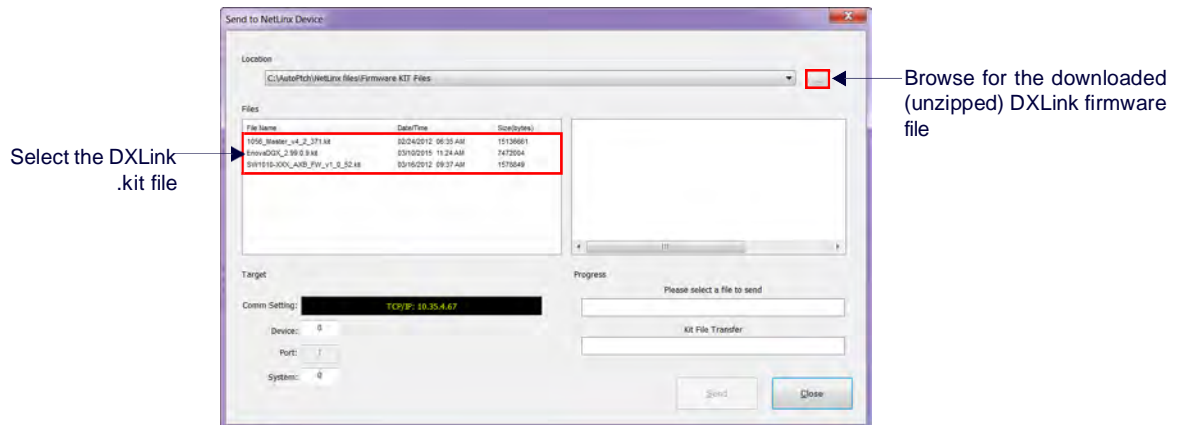

FIG. 169 NetLink Studio - Send to NetLink Device dialog
4. Select Tools/Firmware Transfers/Send to NetLink Device to open the Send to NetLink Device dialog (FIG. 169):